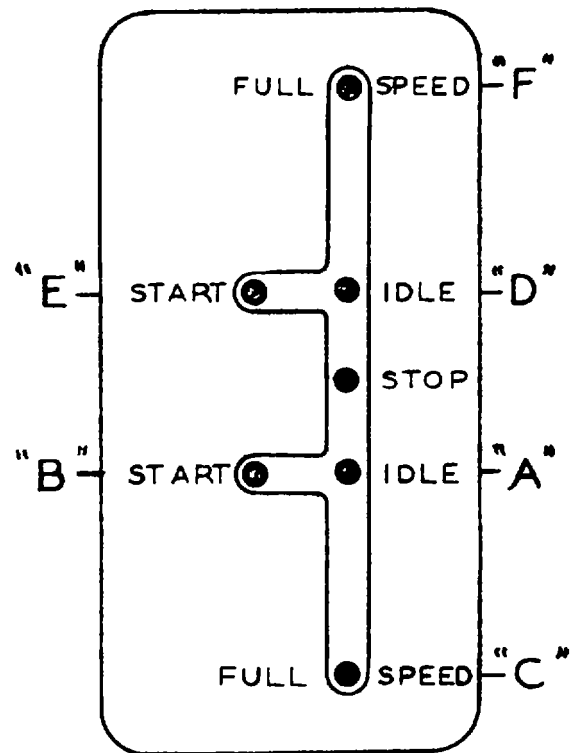

FIG. D-1.
2. TO GO AHEAD FROM STOP (See Fig.D-1)
(b) Move the lever to the 'start" position ('B" on Fig. D-1). The engine will now start to turn over on air. A small amount of fuel will also be on at this point but this is merely done to have the fuel pump ready for fuel delivery when the air is turned off.
3. TO REVERSE THE ENGINE (See Fig. D-1)
(e) With indicating cocks open turn the engine over on air. Do not move the control lever beyond starting position 'B" (See Fig. D-1). Observe the fuel pressure on the gauge board. A couple of starts may be necessary for the fuel pressure to register and it may also be necessary to reprime the fuel transfer pump. As soon as fuel pressure registers move the control lever to STOP.